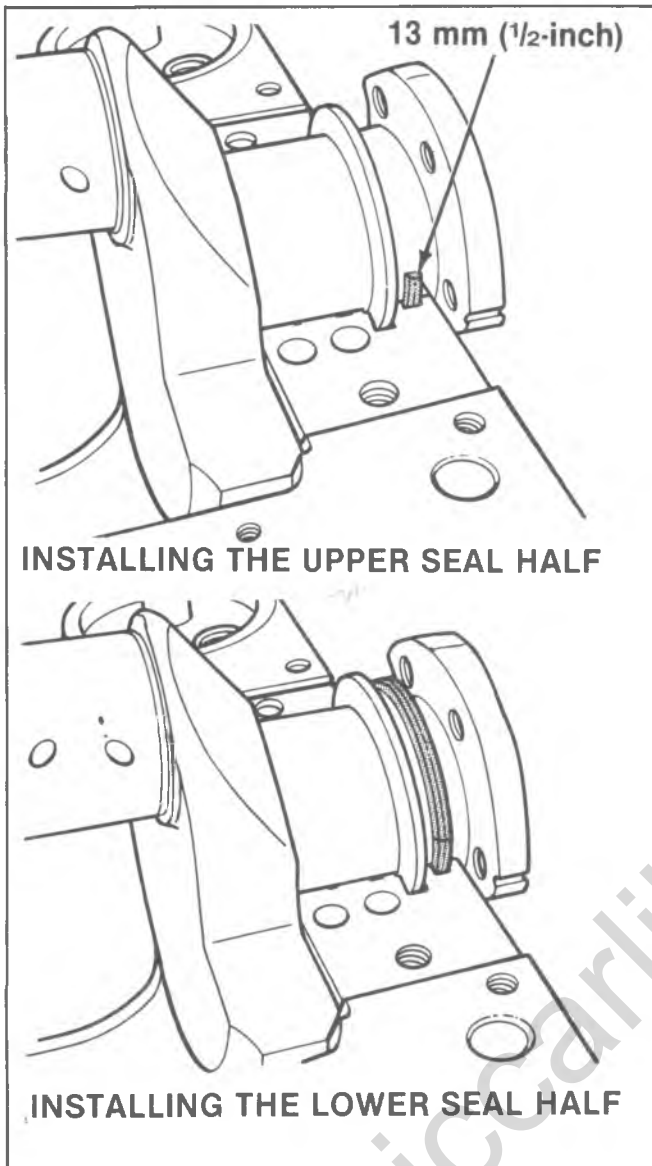

Figure 26—Installing the Two Piece Rear Crankshaft Seal
1. Seal halves to the block (figure 26).
Install or Connect (Figures 26, 31 and 32)